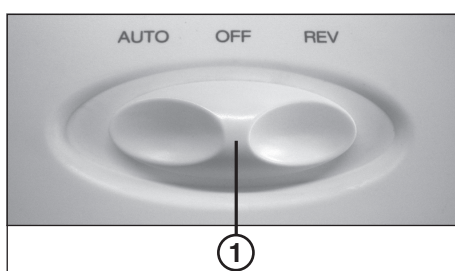

fig. 1
- Turn the function switch (1) (fig. 1) in position „AUTO“.
- Turn the function switch (1) (fig. 1) **briefly** to position „REV“, then in position „OFF“.
- Tear off the excess paper over the feed slot and then turn the function switch (1) (fig. 1) to position „AUTO“.
- Turn the function switch (1) (fig. 1) in position „OFF“.